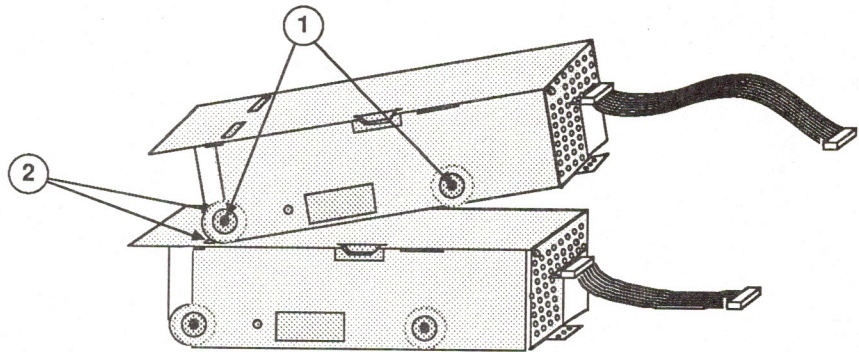

FIGURE 25
2. Place the drive mechanism into the metal housing and replace the four Phillips screws, two on each side (Figure 25, #1).
3. To place the upper drive into the chassis over the installed lower drive, slide the upper 800K drive forward then back over the lower 800K drive so that the tabs on the top of the lower drive housing mesh with the holes on the bottom of the upper drive housing (Figure 25, #2).